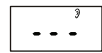

Figure 3
3. While it is measuring, the LCD will show as in Figure 3.